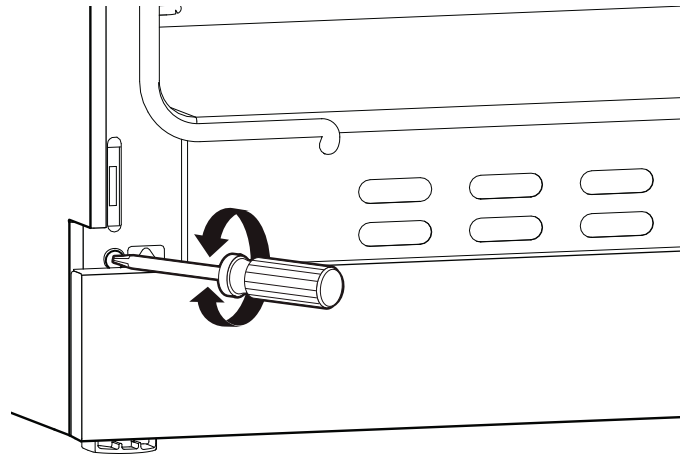

Figure 20: Hinge Receiver Adjustment Screw
4. If door or handle appears slightly tilted, you may adjust the hinge receiver by rotating the large Torx-head screw located directly below the hinge receiver with a T-20 Torx driver. Rotate each screw respective to its side and direction the door needs to be adjusted (Figure 20).